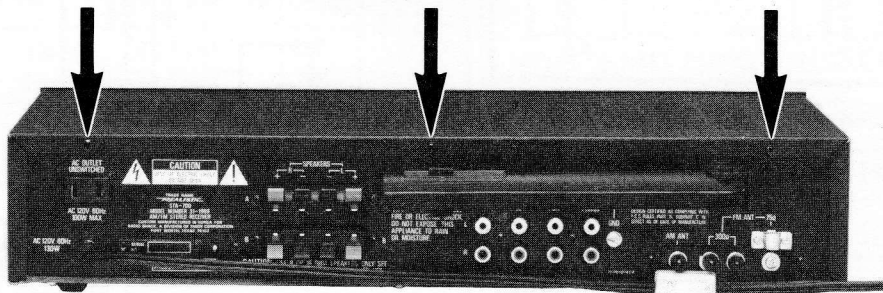

Figure 3-2
- b. Remove three screws from upper Back Panel (Figure 3-2).